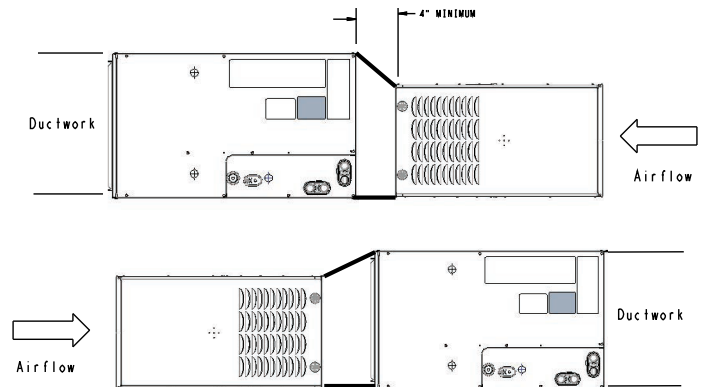

Fig. 4 – Horizontal with Adapter
8. If coil is wider than furnace, use 4-in minimum transition and self tapping screws to attach furnace. See Fig. 4.